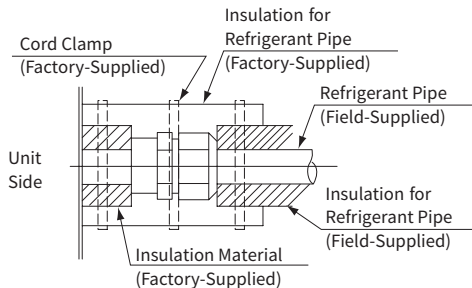

Fig.5.3 Insulation on Pipes
(3) After connecting the refrigerant piping, seal the refrigerant pipes by using the factory-supplied insulation material as shown in Fig.5.3.